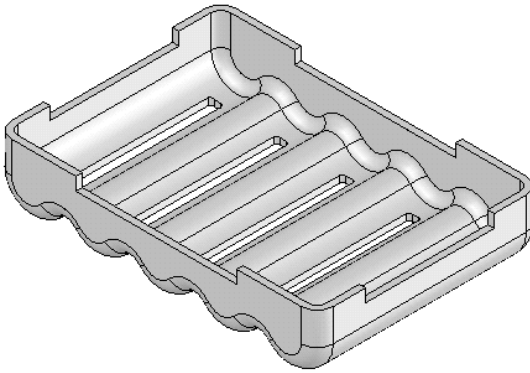

Figure 9-50 Model after creating other features
- Create the cuts on the sides of the model, refer to Figure 9-50.
- Create the slots on the lower part of the base and add the fillet to the slots feature, refer to Figure 9-50.
- Pattern the slots and the fillet feature, refer to Figure 9-50.
10. Using the **Extruded Cut**, **Fillet**, and **Linear Pattern** tools, create the remaining features of the model. The model, after creating the features using these tools, is displayed in Figure 9-50.